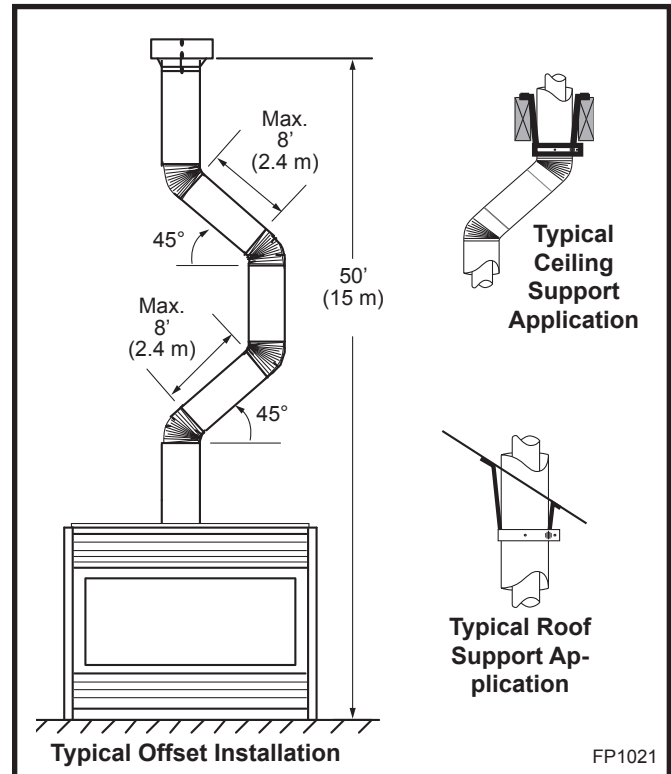

Fig. 37 Typical vertical roof applications.
4. Two sets of 45° elbows offsets within these vertical installations. From 0 to a maximum of 8' (2.4 m) of vent pipe can be used between elbows. (Fig. 37)
The enlarged ends of the vent section always face down. (Fig. 37)